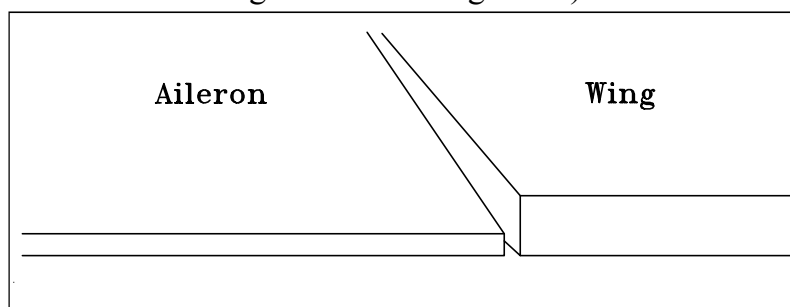

Figure 12 Trailing Edge Alignment
- 4 Install in reverse sequence of removal. Ensure that the spade is installed with the same quantity and location of washers (refer to Figure 12). Observe the second Note of Chapter 27-00-00.
- 4 Check if the ailerons are in 0°-position (The trailing edge bottom of the aileron is in alignment with the trailing edge bottom of the wing as shown in Figure 12).